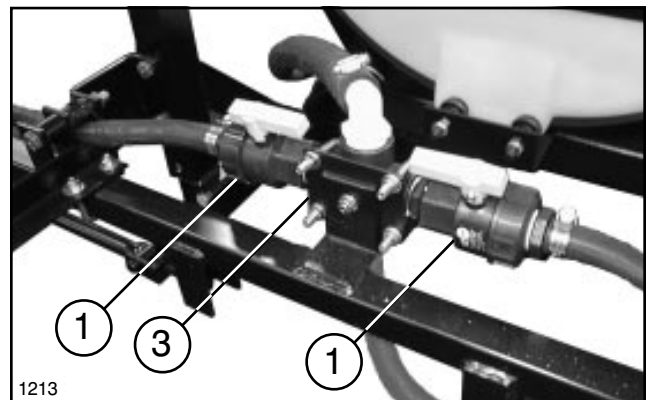

FIG. 17
20. Apply thread sealer and install (2) 1" Ball Valves into opposing ports of 1" Cross using (2) 1" Close Nipples. See FIG. 17.
24. Mount Cross Base to Boom Frame using (1) 5/16" x 3/4" carriage bolt and flange nut. See FIG. 17.
25. Mount Cross Assembly to Cross Base, as shown in FIG. 17, using (2) 5/16" U-Bolts and (4) flange nuts.
26. Attach other end of the 1" x 64" Hose attached to Ratchet Valve earlier to the 90° Hose Barb in top of Cross. Secure with (1) 1" hose clamp.